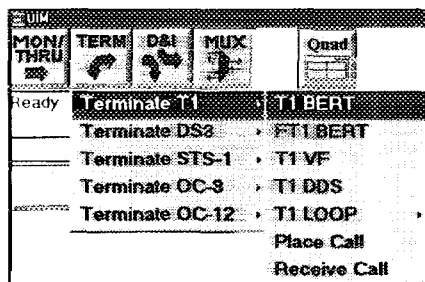

Figure 2-2. Application Icons with Pull-Down Lists
1. **Application Icon Selection** — This area displays the **MON/THRU** (Monitor and Through), **TERM** (Terminate), **D&I** (Drop and Insert), **MUX** (Multiplexer), and **QUAD** (Quadruple Split Screens) icons used to select a test application. Refer to Figure 2-2 for a display of the icons and their associated pull-down menus.